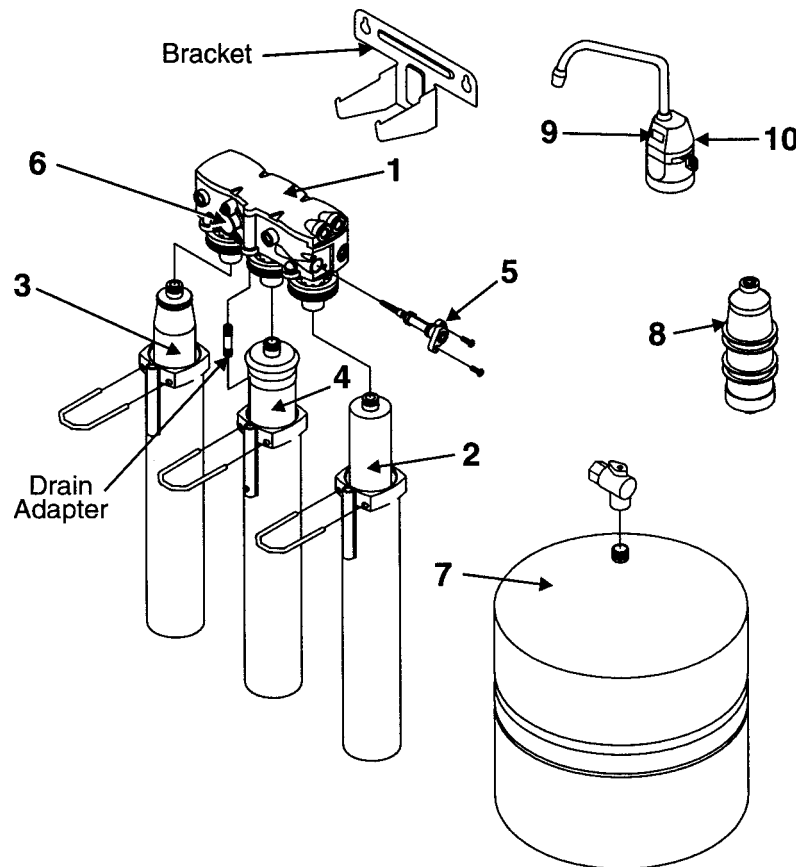

FIG. 2
The manifold assembly Fig. 2 item (1) serves as the functional hub (Fig. 2) of the Aqua-Cleer/Good Water Machine system by directing the flow through each of the system’s main components.
To help assure quick and trouble-free installation of the Aqua-Clear® system, the following preparation steps should be performed in the dealer facility. Refer to Fig. 2. Cleanliness is essential in the In-Plant Preparation procedure. Be sure to wash your hands thoroughly before handling filters. The use of surgical gloves is strongly recommended.